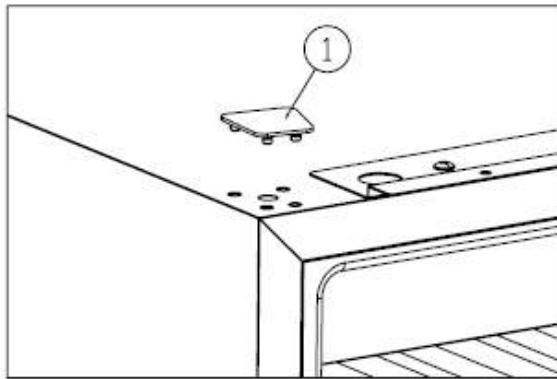

Figure 3
- ✧ Removethegerminal lid①.[Figure 3]